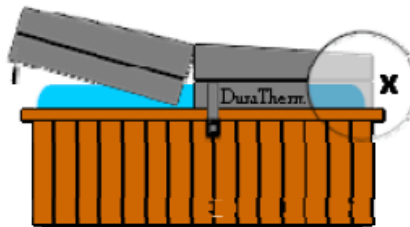

Figure 3. Spa cover fits shell.
2. Then, measure skirt length. This is done by measuring the height from which the shell protrudes from the cabinet, as illustrated for X in Figure 3 above.